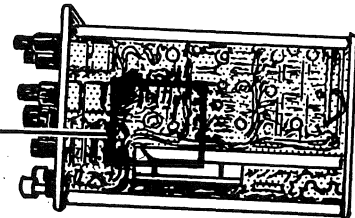

Figure 5-22
3. Adjust the comparator level R-320 (see figure 5-22) so the TD switching aberration starts 20 mv below the positive level (refer to figure 5-21).